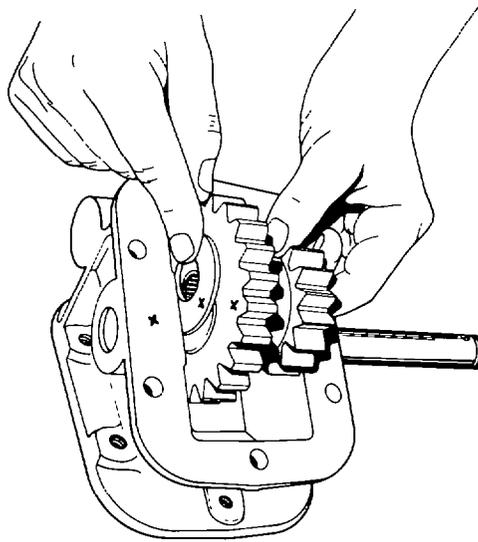

Fig. 392 — Match Marking Gear, Washers and Housing
- c. Match mark the gear, housing and washers to ensure correct location at reassembly, then remove the gear and washers from the housing (see fig. 392).